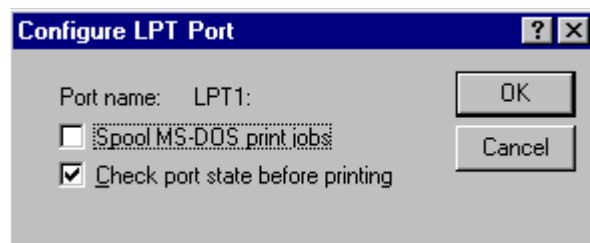

Fig. 1: CAUTION! - Make sure, that the upper selection field („Spool MS-DOS print jobs“) is not selected.
4. Click the PORT SETTINGS button. A selection box opens (Fig. 1).